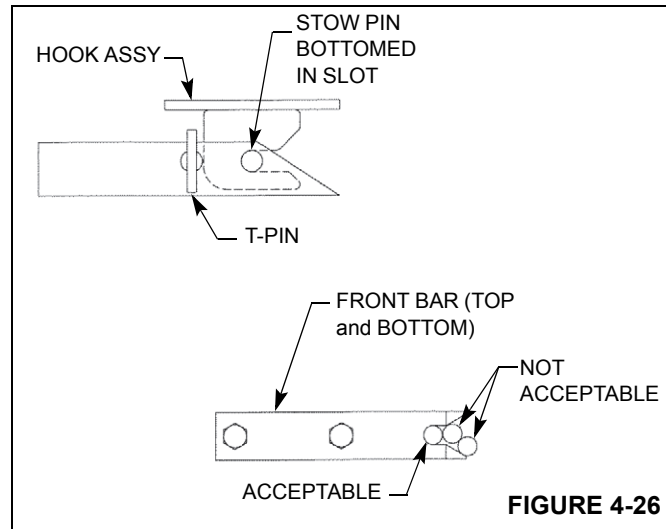

FIGURE 4-26
9. When the boom is fully retracted, the jib stow pins must be bottomed out securely in the ear assemblies. Refer to (Figure 4-26).